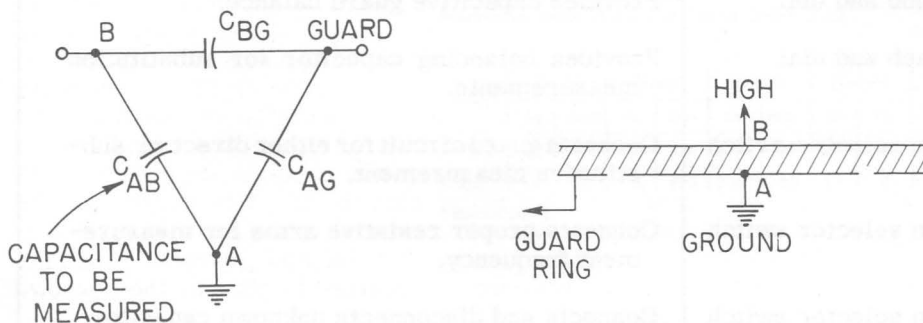

Figure 2. Three-terminal Capacitor and Guarded Sample.
**2.1 THREE-TERMINAL CAPACITANCE NETWORK.** It is often desired to measure the direct capacitance between two points, each of which has capacitance or complex impedance to a third point (see Figure 2). Such a configuration is sometimes produced deliberately, as, for example, when a "guard ring" (Figure 2) is introduced in an electrode system used for the measurement of dielectric materials, either liquid or solid. In other instances it arises inevitably, as, for instance, in a variable air capacitor in which both rotor and stator are insulated from the frame. Here there exists, besides the desired direct capacitance between plates, a capacitance between each plate
**2.2.4 POTENTIAL CONSIDERATIONS.** It is generally best to bring the guard electrode to the potential of the adjacent measuring electrode to obtain the correct answer for dielectric constant and dissipation factor in a three-electrode measurement. In the Type 716-P4 Guard Circuit, with the normal connection of generator and detector, the guard point is brought to ground potential. Consequently, the guarded electrode of a specimen should normally be connected to ground, as indicated by Figures 2 and 5.